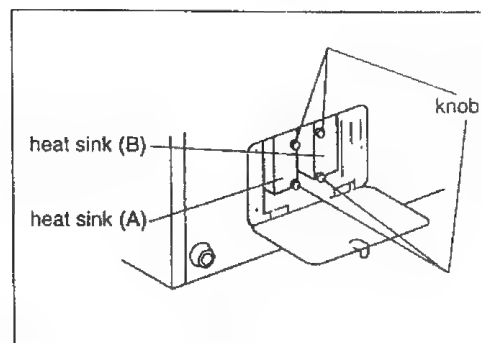

Fig. 63
5. Turn the four (4) thumbscrew knobs counterclockwise to loosen. The knobs should be loosened by using the fingers (Fig. 63).